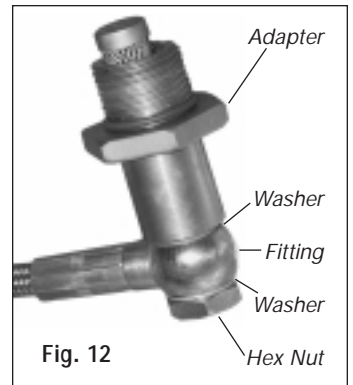

Fig. 12
12. The PTO is supplied with a lubrication pump. Locate the swivel fitting as shown here and loosen the hex bolt in the end of the adapter. Install the adapter into the drain port of the transmission and tighten to 74 lb.ft. **Fig. 12**